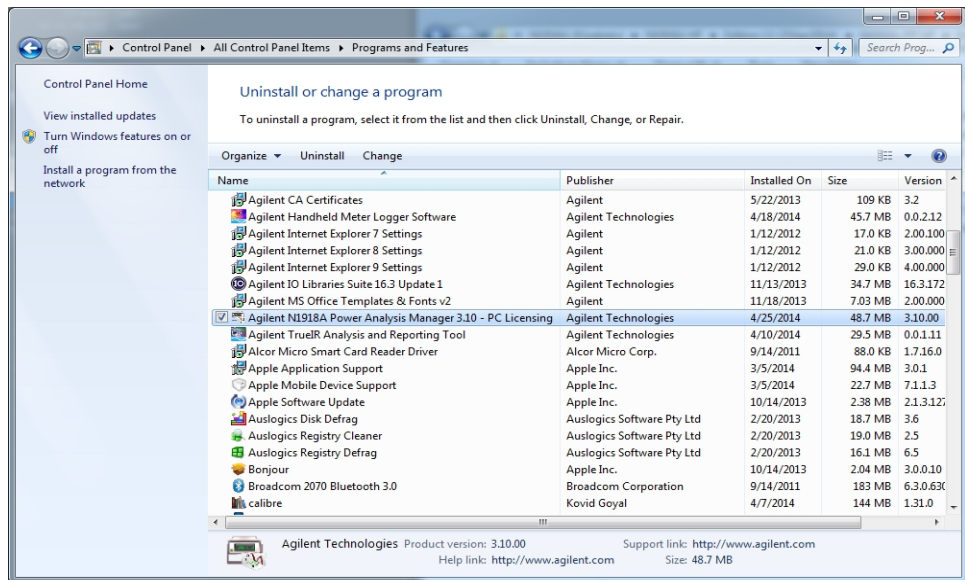

Figure 21 Add or Remove Programs
- 5 Go to **Start > Control Panel > Add or Remove Programs** to uninstall the N1918A Power Analysis Manager Software as shown in **Figure 21**.